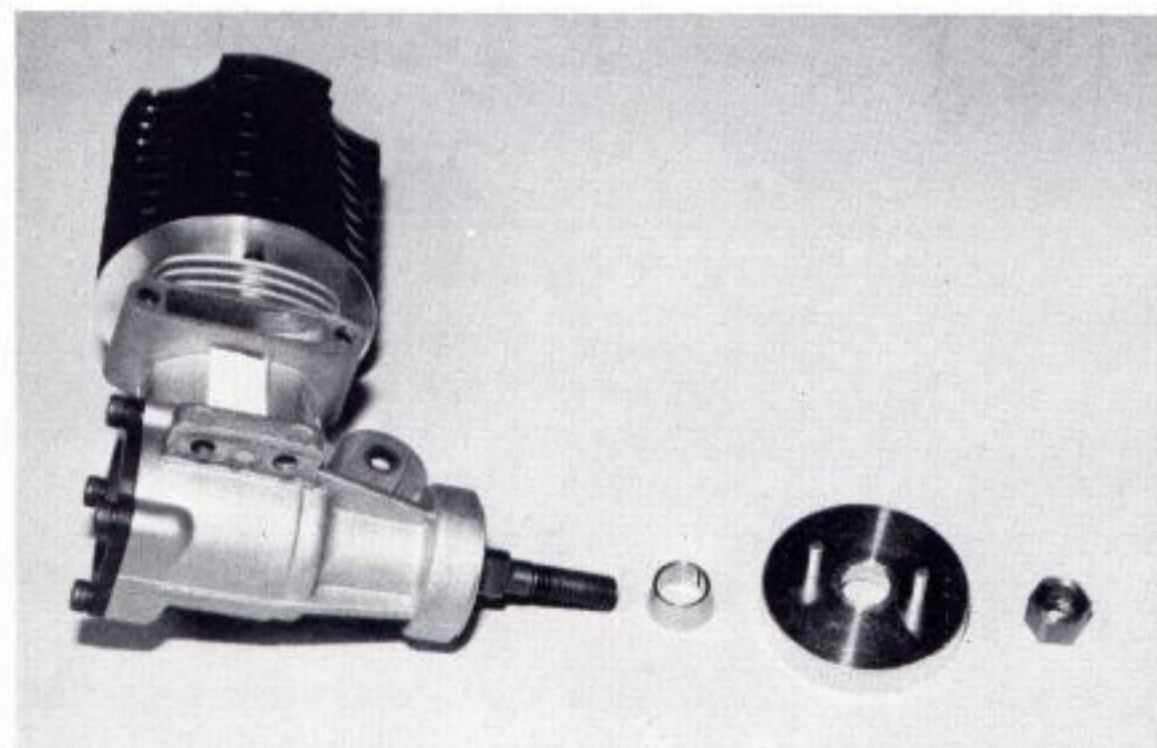

Fig. 247
□ **Figs. 247, 248 & 249** To set up the crankshaft for modification, first install the collet on the crankshaft, followed by the flywheel. The flywheel will fit over the collet (they are a tapered wedge fit). Now we need to install the special cutoff nut. If you look closely at the nut you will see only one side of the nut is threaded. Install the nut so the threaded end is away from the flywheel. Hold the flywheel in one hand and using your 5/16" nut driver or glow plug wrench, hand tighten the special nut onto the crankshaft.